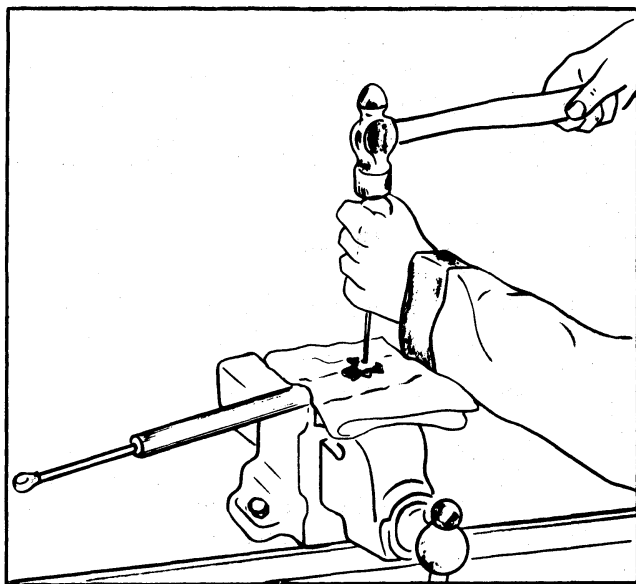

FIGURE 1
2. Place several layers (4 layers minimum) of shop towels or rags over end of cylinder in vise (Fig. 1).
3. Measure 38.10 mm (1-1/2") in from fixed end of cylinder and, using a scratch awl or pointed center punch and hammer, drive awl or punch through the towel and into the cylinder until the gas begins to escape (Fig. 1).